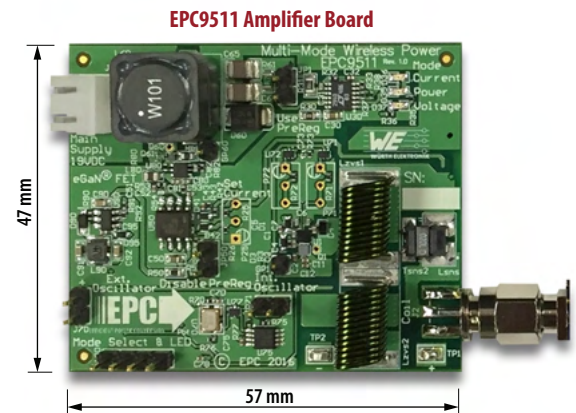
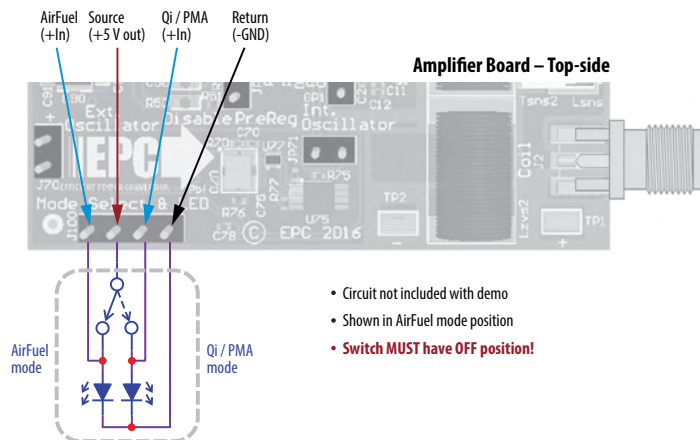

Figure 1: EPC9511 wireless power amplifier board
Figure 5: Proper connection setup for operating mode selection using a switch and LEDs.
The EPC9511 amplifier board is easy to set up and evaluate the performance of the eGaN FET in a wireless power transfer application. Refer to figure 1 to assemble the system and figures 5 through 11 for proper connection and measurement setup before following the testing procedures.
1. Make sure the entire system is fully assembled prior to making electrical connections and make sure jumper JP1 and JP71 are installed. Select AirFuel or Qi/PMA mode according to figure 5 and 6. Also make sure the source coil is attached to the amplifier and that the device board is connected to a load.